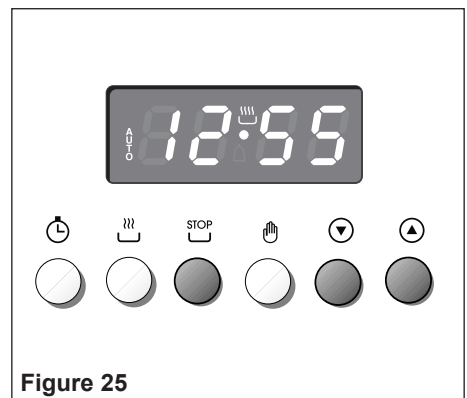

Figure 25
2. Set the end of the cooking time by pushing the  button and the  button to advance, or  to go backwards if you have passed the desired time (fig. 25).